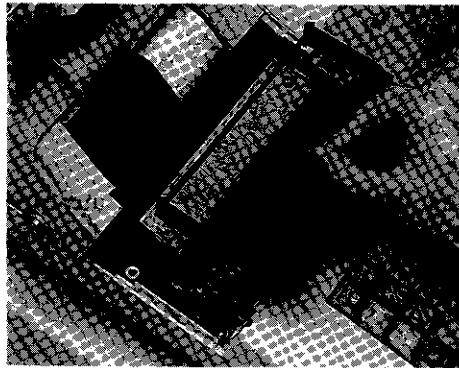

Fig. 7-3.
2. Remove used ink ribbon cassette from its holder by pulling toward the keyboard (Fig. 7-3).